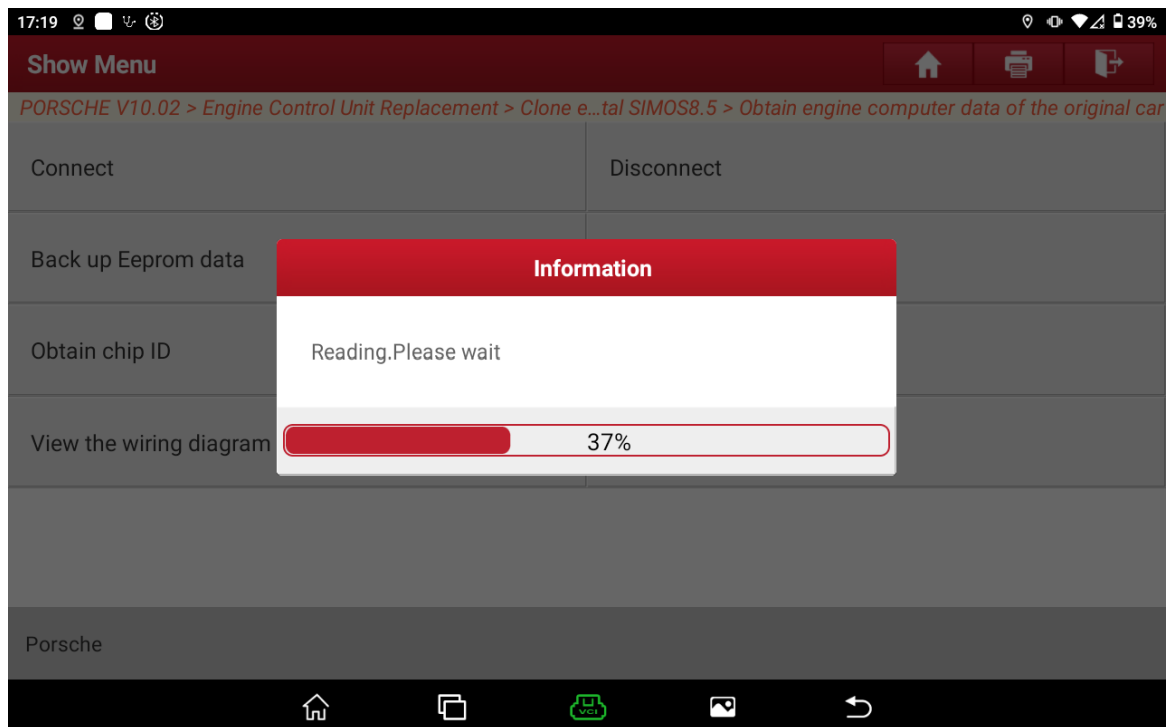
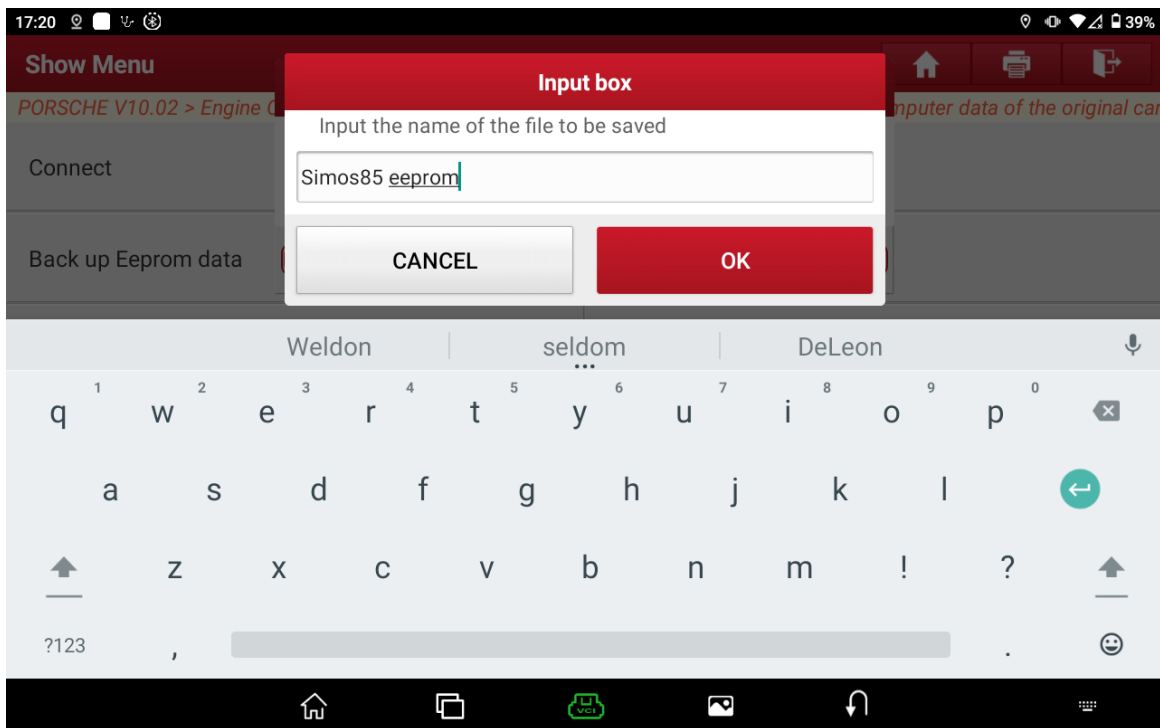
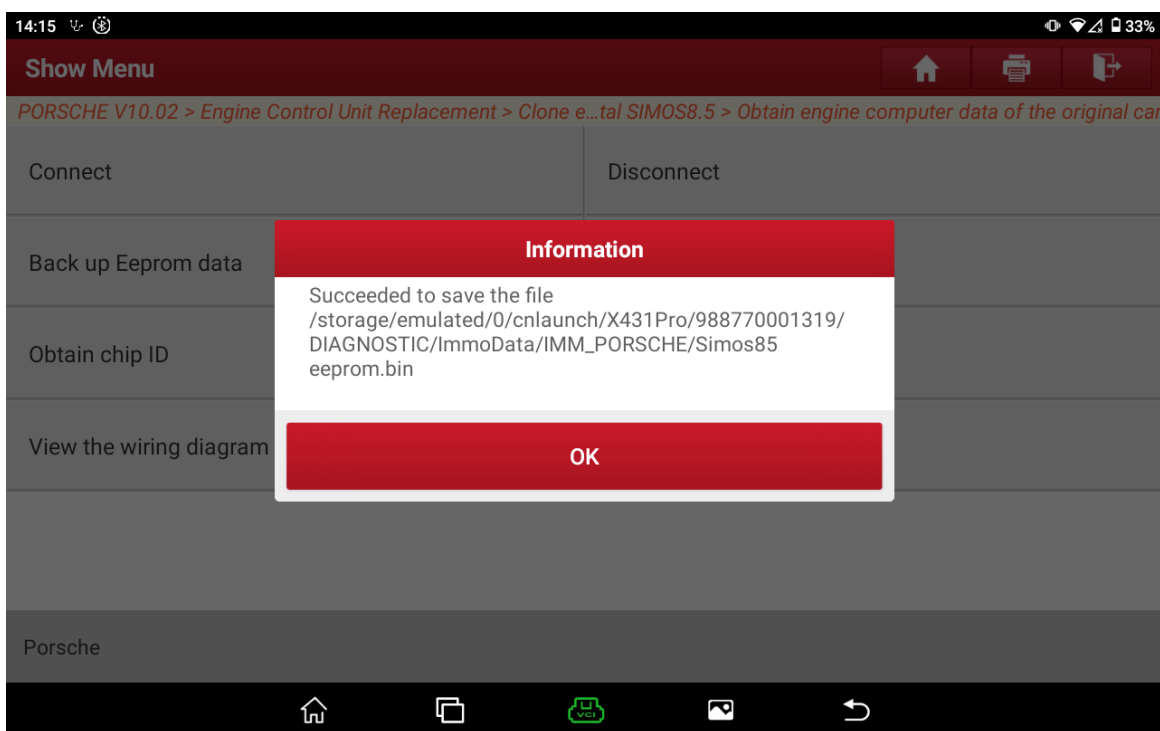

Figure 6
Figure 7
Figure 8
6. Choose [Back up Eeprom data], input the name of the file to be saved, and save the Eeprom data, as shown in Figure 6, Figure 7, and Figure 8.